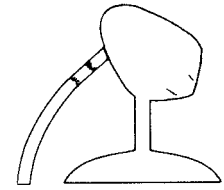

Fig. 9
2. Sprue in a conventional manner. Add an 18 gauge vent to the distal of individual female eyelets to assure a complete casting (Figs. 9 and 10).